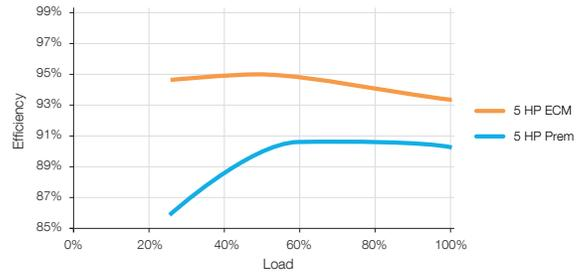

Figure 6: Efficiencies of 5 HP Induction Motor and ECM
- *Figure 6* shows that the efficiency of an ECM at light load is quite high.